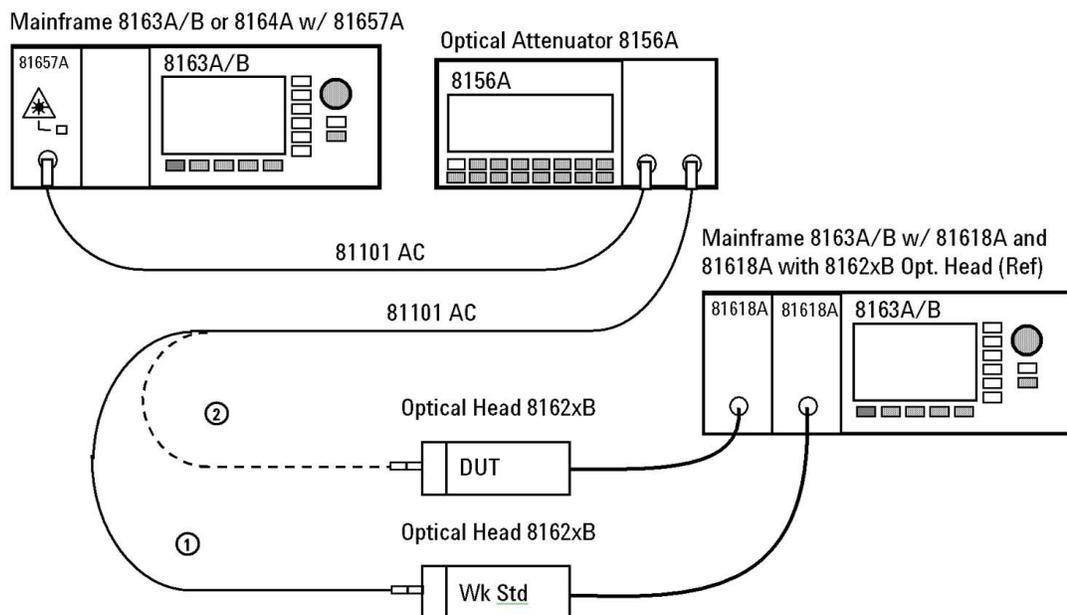

Figure 8 Accuracy Test Setup
- 2 Connect the equipment as shown in Figure 8 .